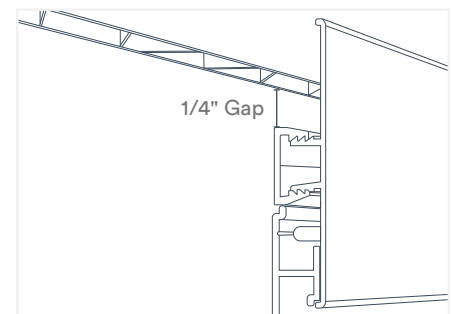

Fig. 21
1. Position the U Channel base to ensure that when the H Channel Snap-In is inserted in place, the lip at the outer edge of the H Channel Snap-In aligns with the top row groove of the SlatWall panel (Fig. 21). When fastening the U Channel base to the wall, leave a gap of approximately 0.25" (1/4") between the U Channel base and the Wall&CeilingBoard installed above the SlatWall area.